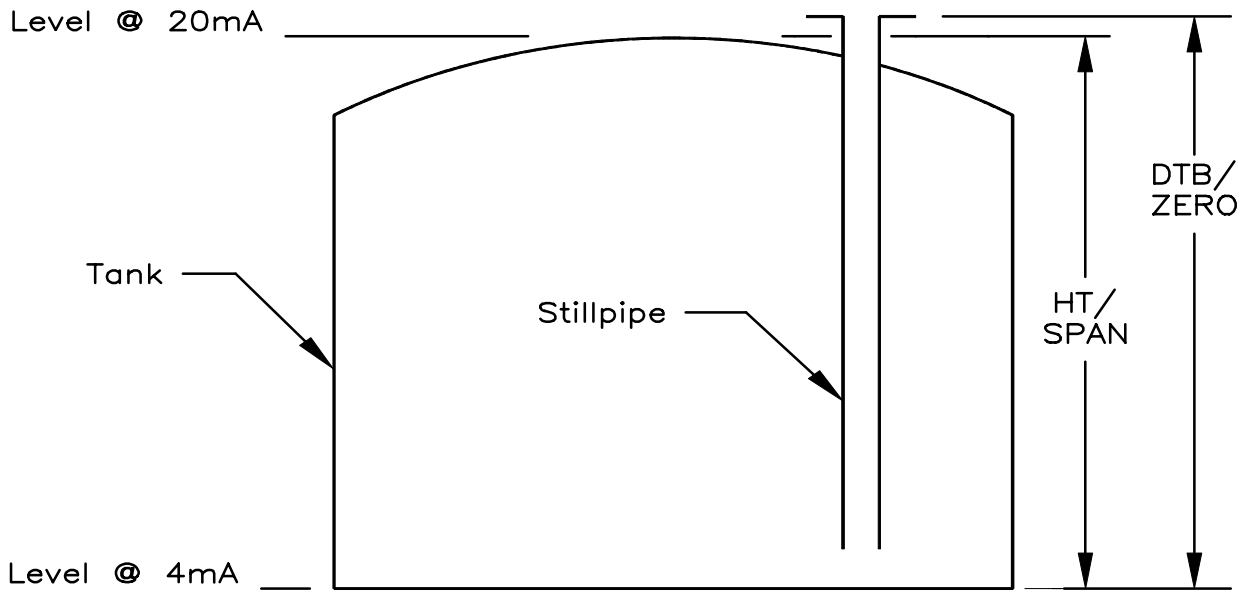
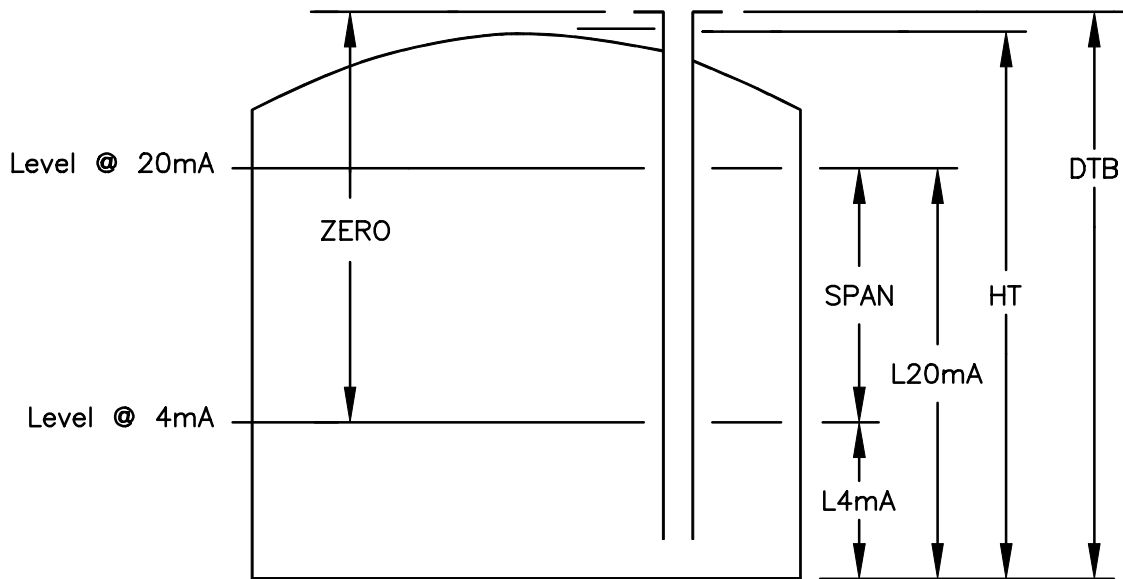

Figure 5.1 Tank Dimensions (Simple)
Figure 5.2 Tank Dimensions (General)
Figure 5.1 shows the two tank dimensions required to properly calibrate the transmitter for simple installations where 4mA is at tank bottom and 20 mA is at tank top. Figure 5.2 shows the more general definition of dimensions. The Distance to Tank Bottom (DTB) is the distance from the stillpipe sensor housing mounting flange to the bottom of the tank. The level at the 4mA point ( $L_{4MA}$ ) is the distance from tank bottom to the desired level to be set to 4mA. The bottom of the tank is normally calibrated to represent zero level (4 mA) and in this case  $L_{4MA} = 0.00$ . The Height of the Tank (HT) is the distance from the bottom of the tank to the top of the tank. The level at the 20 mA point ( $L_{20MA}$ ) is the distance from tank bottom to the desired level to be set to 20mA.